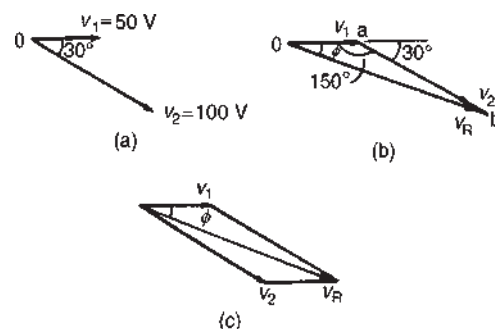

Figure 14.11
Phasors are usually drawn at the instant when time $t = 0$. Thus v_1 is drawn horizontally 50 units long and v_2 is drawn 100 units long lagging v_1 by $\pi/6$ rads, i.e. 30° . This is shown in Fig. 14.11(a) where O is the point of rotation of the phasors.
- Draw v_1 horizontal 50 units long, i.e. oa of Fig. 14.11(b)
- Join v_2 to the end of v_1 at the appropriate angle, i.e. ab of Fig. 14.11(b)
Alternatively, when two phasors are being added the resultant is always the diagonal of the parallelogram, as shown in Fig. 14.11(c).
on triangle Oab of Fig. 14.11(b) gives: